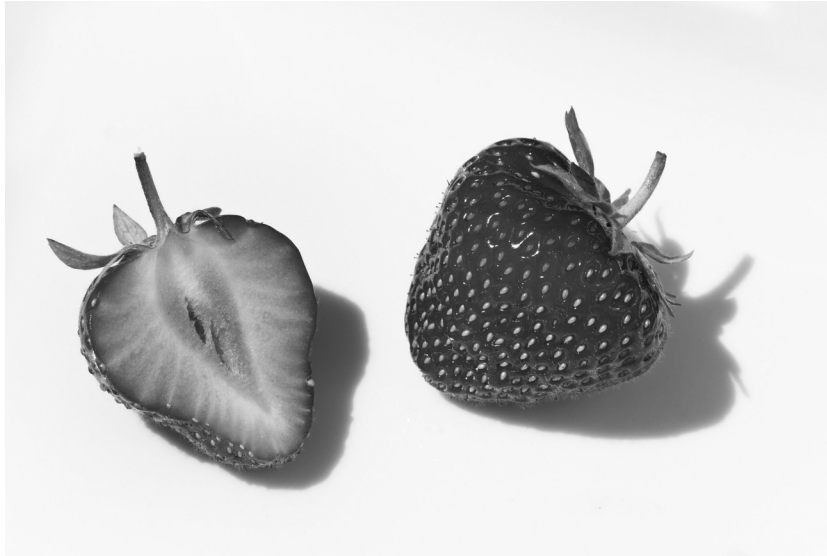

**Fig. 2.1**
- 2 Fig. 2.1 shows two halves of a fresh strawberry fruit. This is a false fruit as the edible part has developed from a swollen receptacle and the seeds are found in structures called achenes on the surface of the strawberry.